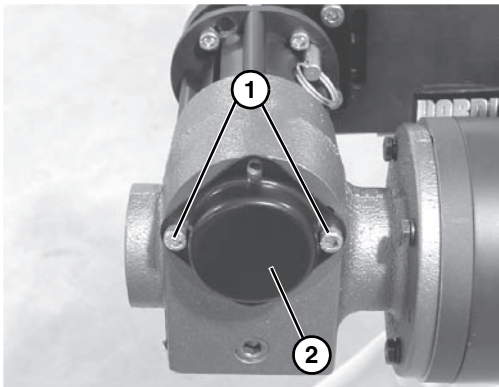

Figure 8
1. Remove two (2) screws (Figure 8, item 1) and remove drive shaft cover (Figure 8, item 2).
8. Install cover (**Figure 8, item 2**) and tighten two (2) screws (**Figure 8, item 1**) to 50 in-lbs (5.6 N-m).